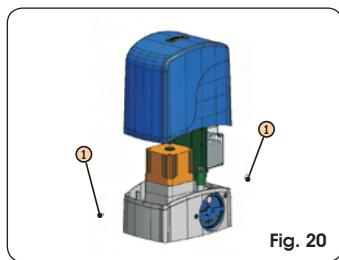

Fig. 20
Return the board support to its original position. Fit the cover, Fig. 20, and tighten the two side screws provided, Fig. 20 ref. ①.